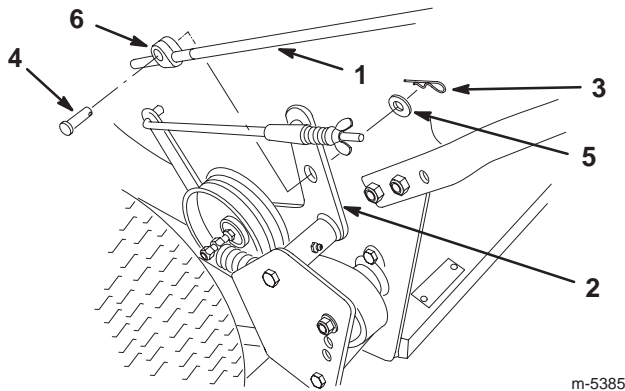

Figure 5
1. Thread the rod fittings an equal distance onto each control rod (Fig. 5).
2. Install the rod fittings with clevis pins into the holes in the idler brackets (Fig. 5). Secure the rod fittings with washers and hairpin cottes (Fig. 5).
Note: Install each rod fitting so that the clevis pin is above the control rod as shown in Figure 5.